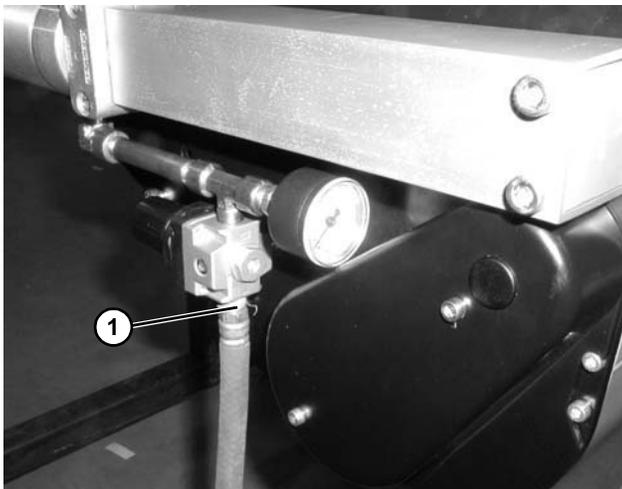

Figure 85
1. Remove air supply (Figure 85, item 1) from center drive module.